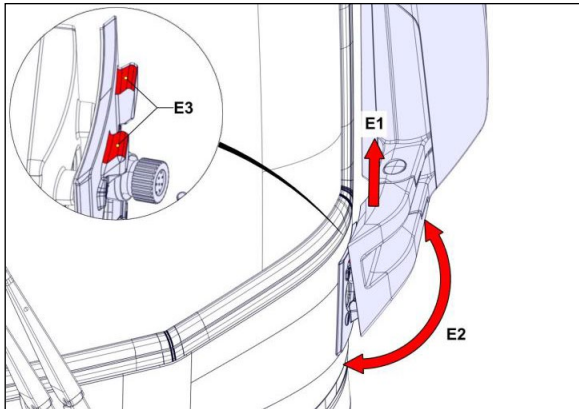

FIGURE 102
3. Lift the mirror unit (E1, Figure 102) from the mounting plate and tilt (E2, Figure 102) so it detaches from the mounting plate.